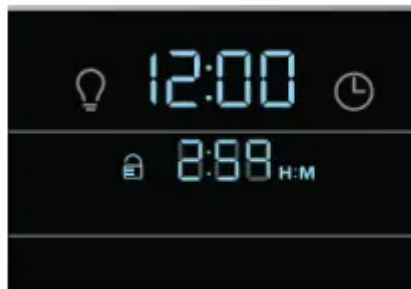

Figure 29: Clean cycle in progress
4. During the clean cycle the time of day remains in the display and the time remaining in the clean cycle will also be active.(Figure 29)